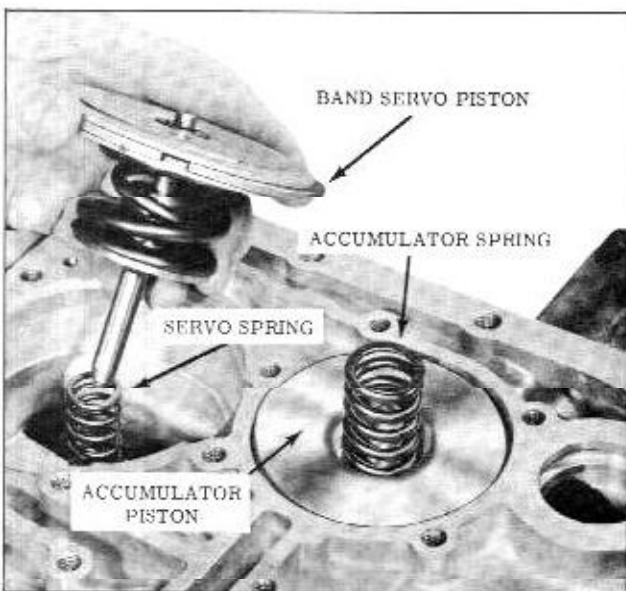

Fig. 3-128 Servo Installation
8. Install servo release spring into case bore. (Fig. 3-128)